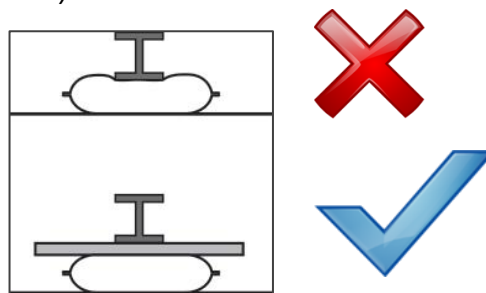

Figure 14 – Small Contact Surface Area
- 5.6.1 Small Contact Surface Area – When lifting objects such as beams or pipes, a steel plate or fibreboard must be placed between the air bag and the object before lifting (see Figure 14).